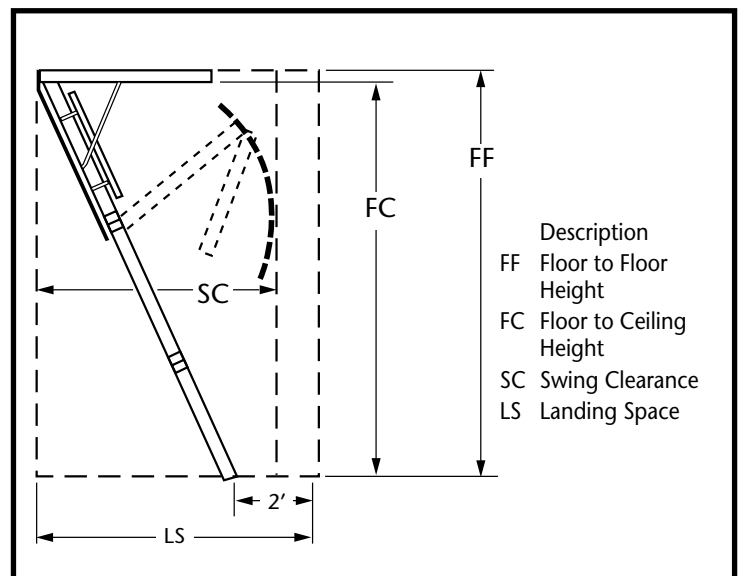

Figure 3
Before Proceeding: You must have: a) a suitable ceiling and joist structure and b) the persons, tools and materials needed c) the appropriate ladder for your ceiling height (See Figure 3 and Table 1 below), and d) a level and flat location in the ceiling.
STEP 2. Check that you have the *swing clearance* (SC) needed (see Figure 3 and Table 1).
STEP 3. Check that you have the *landing space* (LS) needed to let both legs rest flat on the floor (see Figure 3 and Table 1).